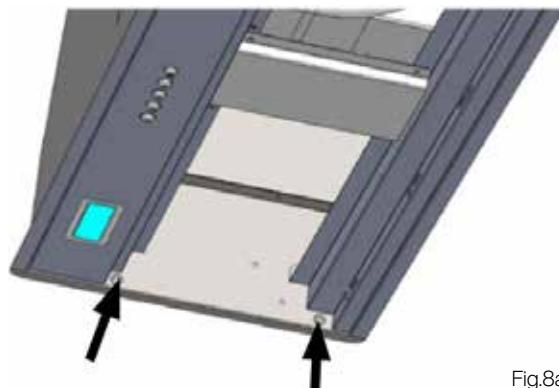

Fig.8a
3. Locate the four fixing points, two at either end of the rangehood (Fig.8a)